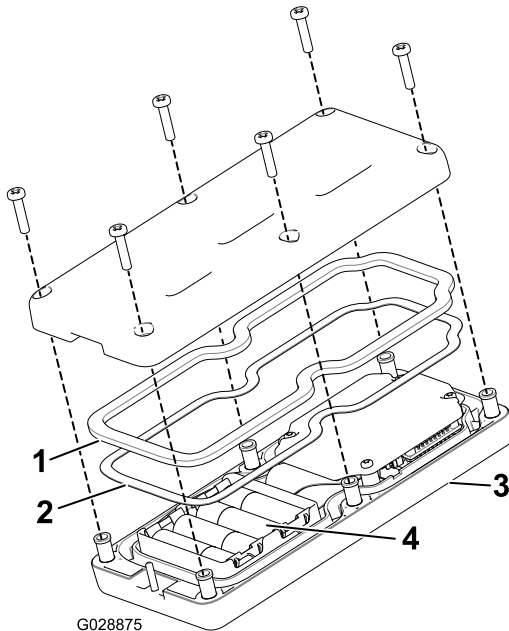

Figure 21
2. Install the batteries into the terminal cradle observing proper polarity. The cradle is embossed with polarity markings for each terminal (Figure 21).
4. Secure the cover with 6 screws (Figure 21) and torque them to 1.5 to 1.7 N·m (13 to 15 in-lb).
3. Ensure that the steel gasket and rubber seal are seated in the channel in the handheld remote and set the back cover in place (Figure 21).